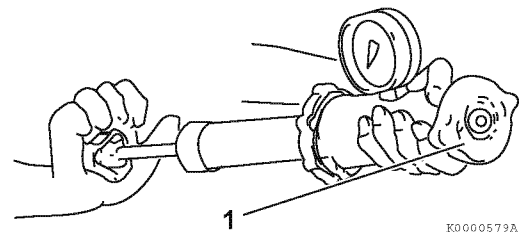

Figure 8-12
1. Check for proper operation of the radiator cap. Install the radiator cap (Figure 8-12, (1)) on a cooling system tester.